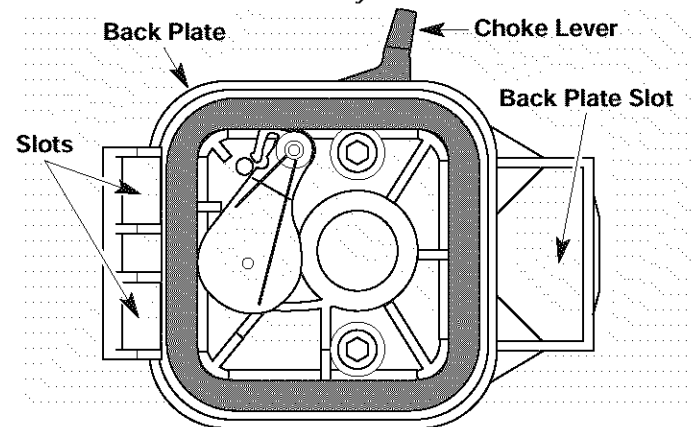

Fig. 34
6. Replace the filter (Fig. 34).
7. Reinstall the air filter cover. Position the hooks on the left side of the air filter cover into the slots at the left side of the back plate (Fig. 34).
8. Swing the cover to the right until the tab on the air filter cover snaps into place in the slot on the back plate (Fig. 34).